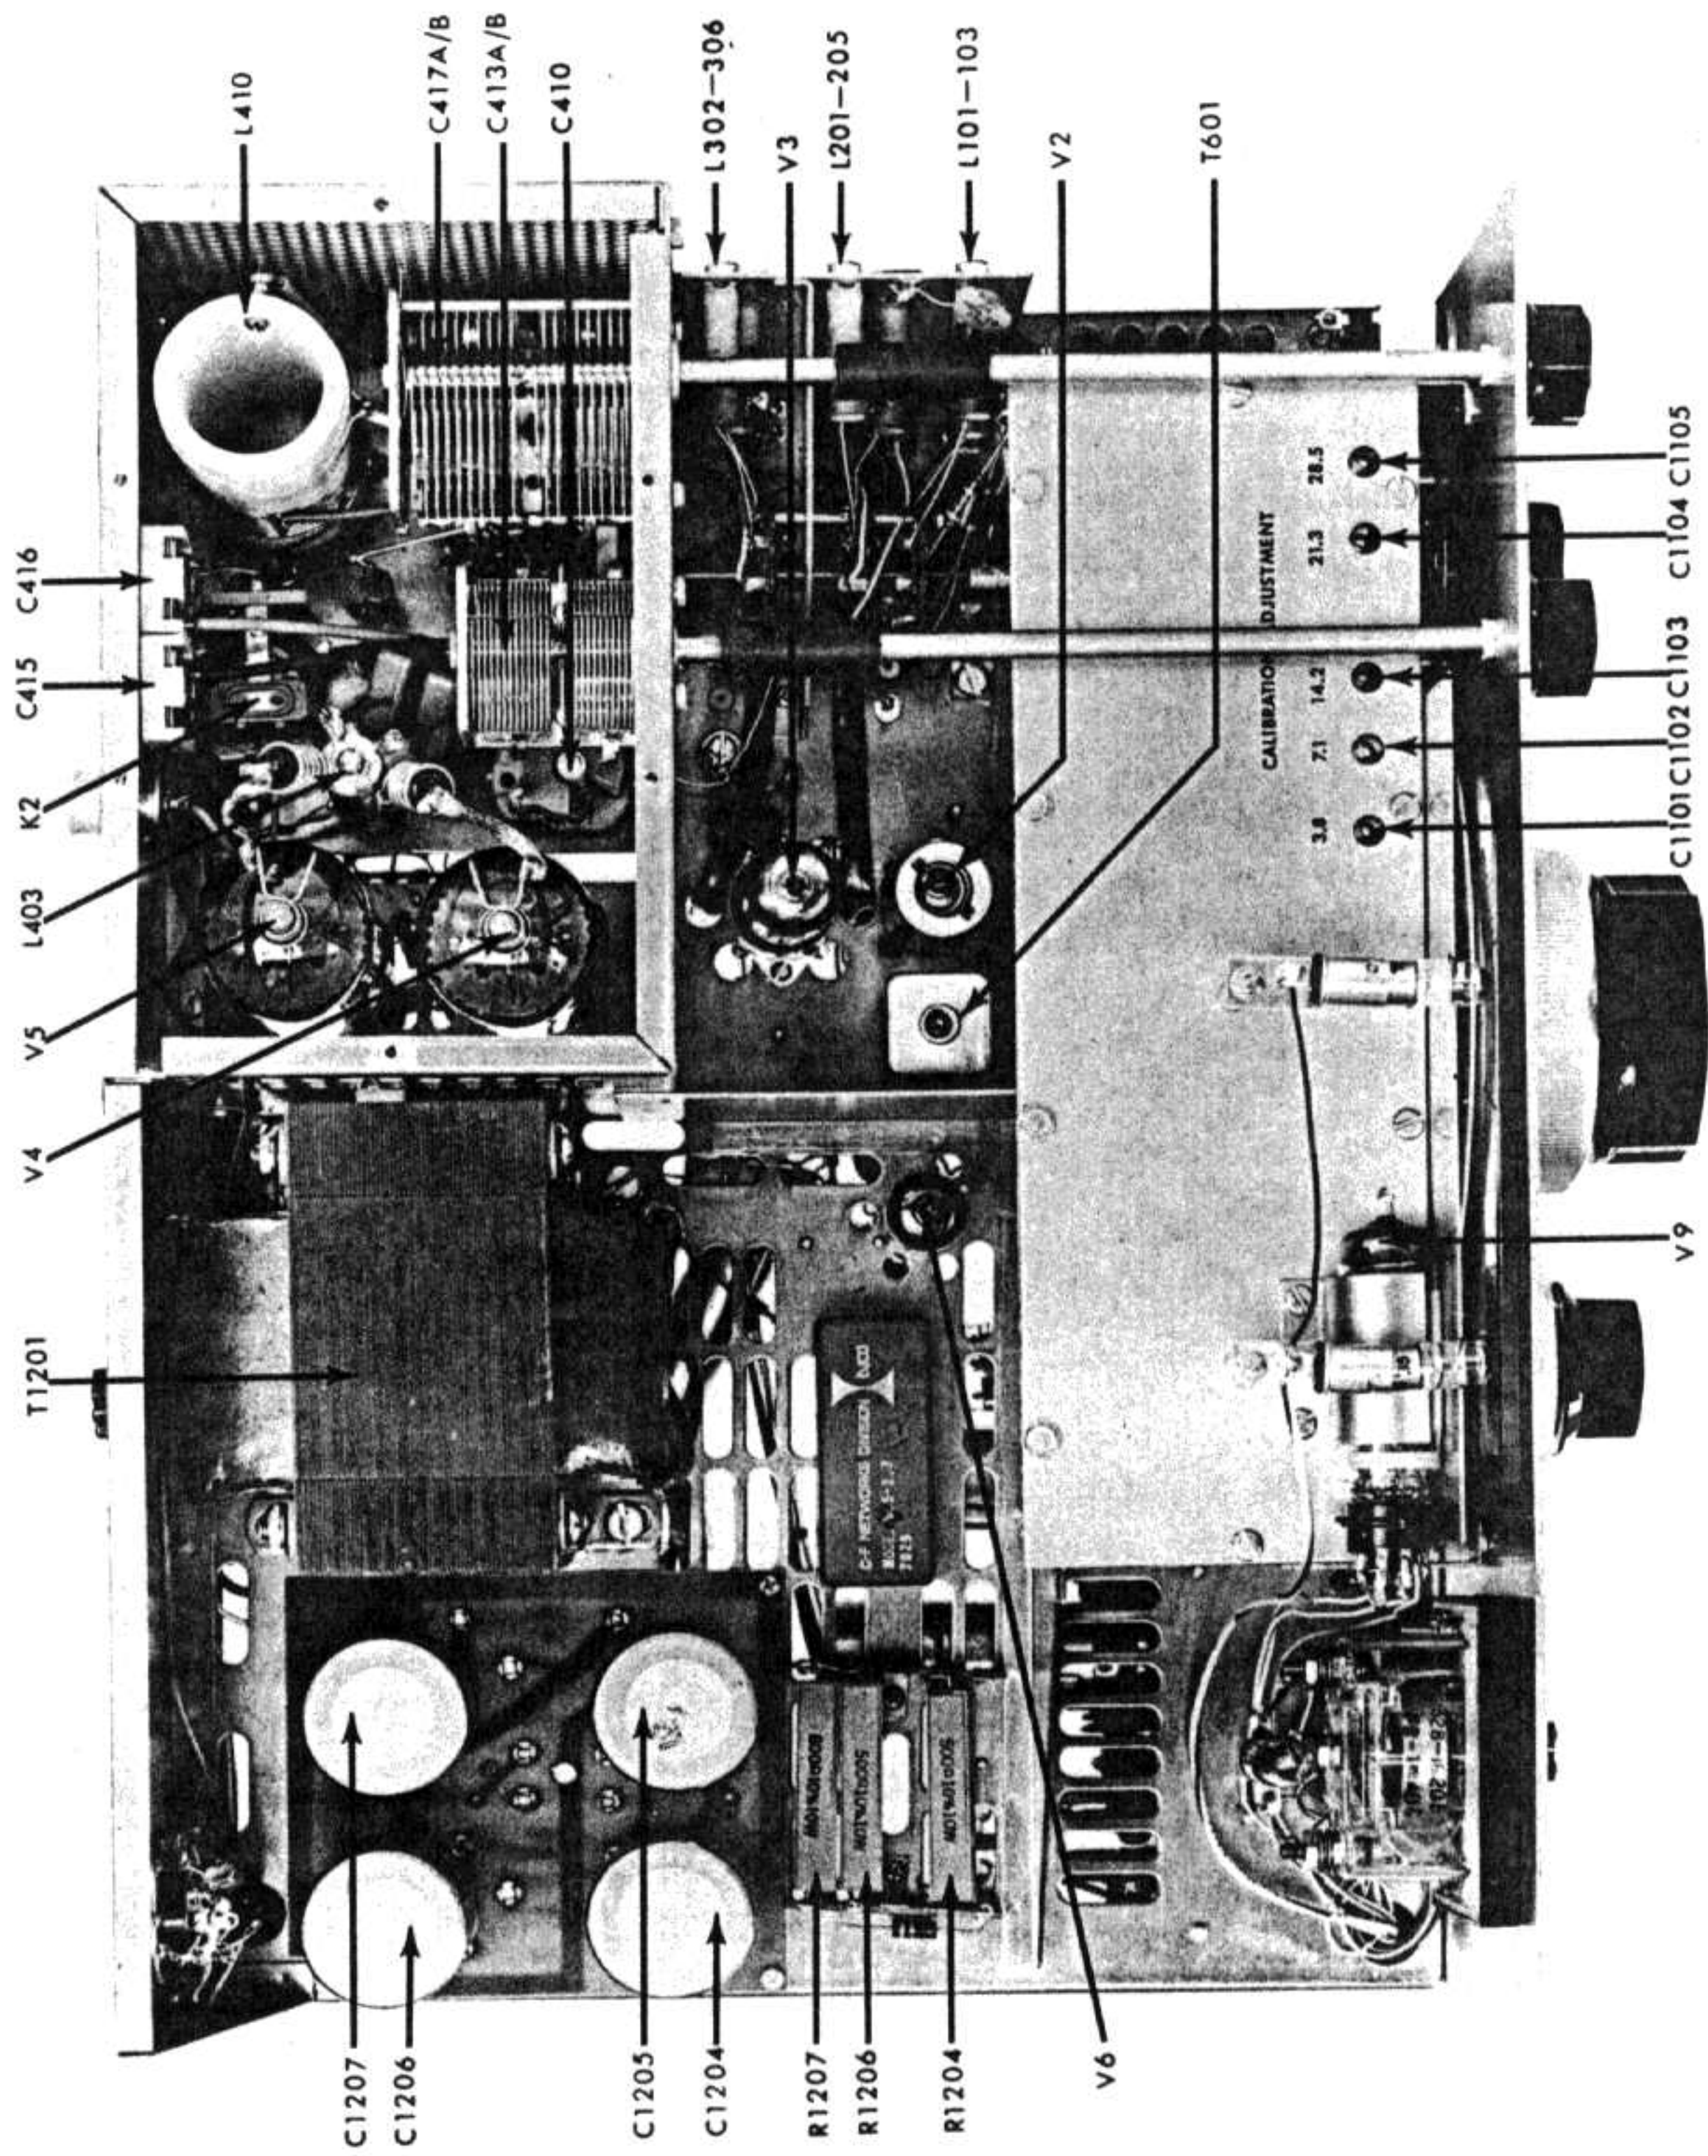
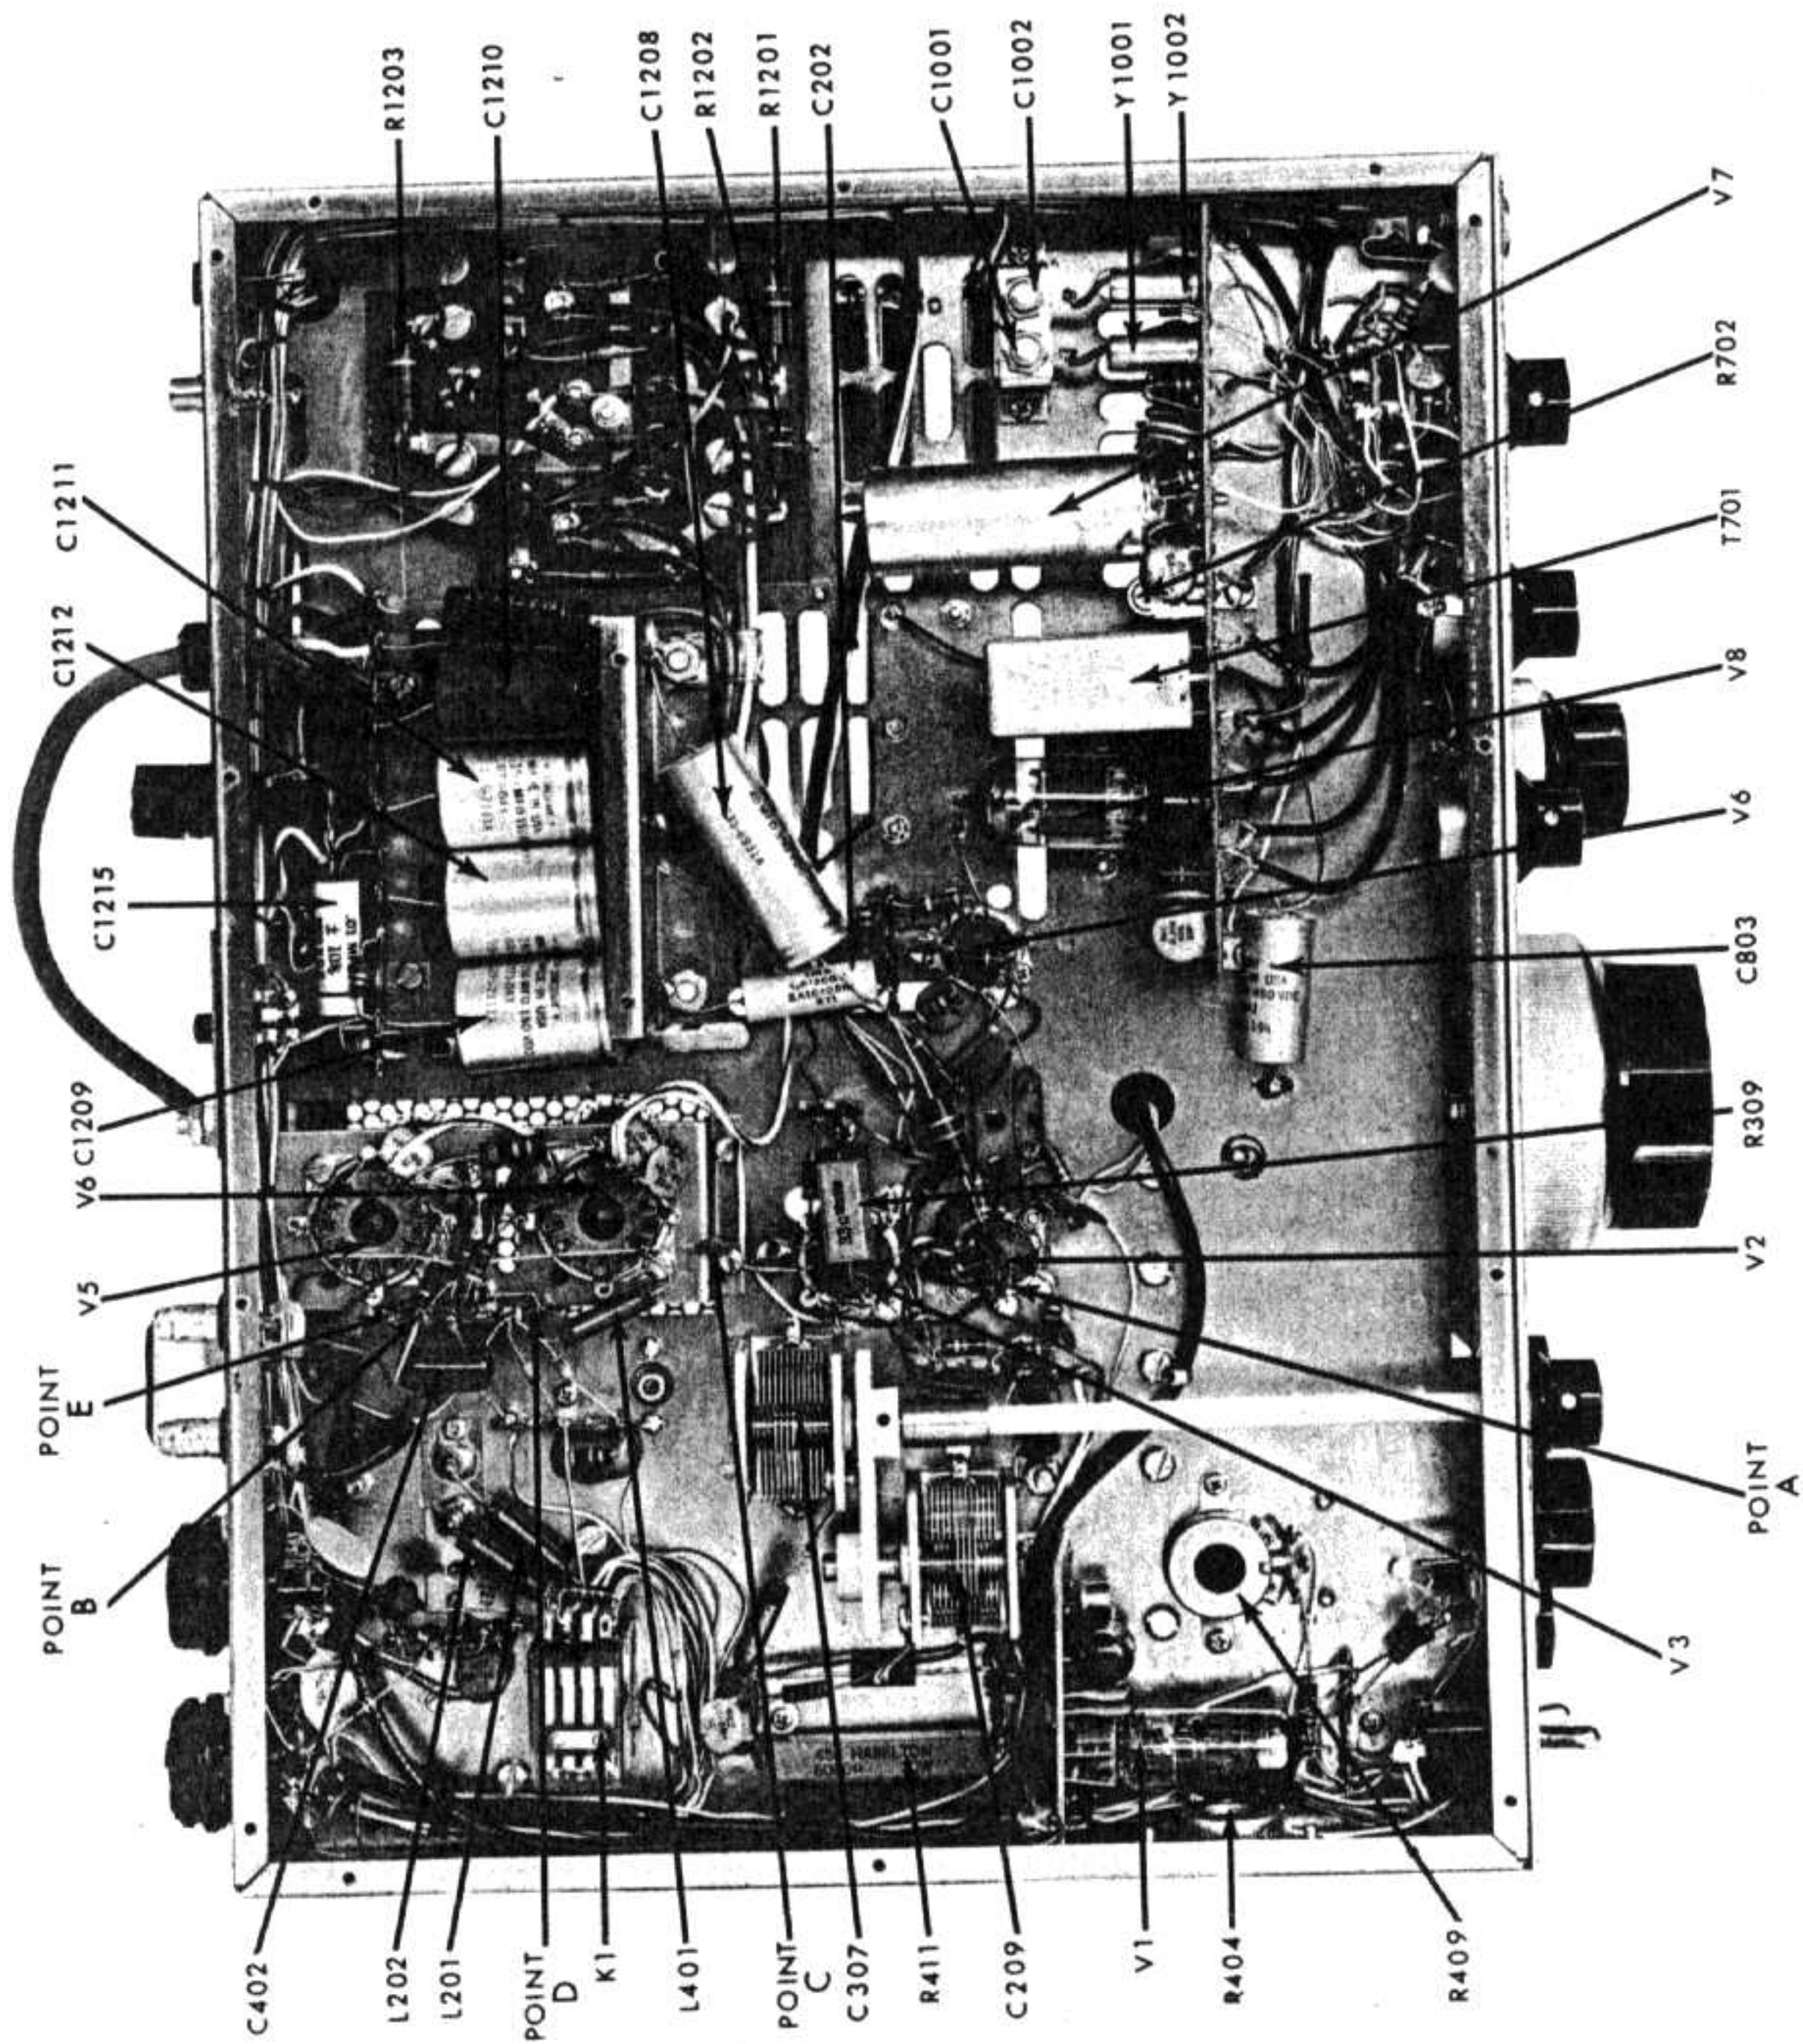

FIGURE 4. TOP VIEW OF 600-T
FIGURE 5. BOTTOM VIEW OF 600-T
- ① Set MAIN TUNING dial to 0.
- ② Rotate DIAL SET control to 0.
- ③ Connect VTVM from pin 1 of the Mixer (Point A, Figure 5), V2, to ground.
- ④ Set VTVM on 30 volt AC scale.
- ⑤ Set BAND SWITCH to 7.1, 21.3, or 10M (28.5) position.
- ⑥ Place Function Switch in TRANS position.
- ⑦ Adjust VFO injection coils for peak VTVM reading as follows.
- ③ Set BAND SWITCH to 3.8, 7.1, 14.2, 21.3, or 10M position. (See chart below.)
- ④ Remove screen voltage from V4 and V5 by disconnecting the orange wire from the terminal strip immediately adjacent to the base of V5. (Point B, Figure 5.)
- ⑤ Loosely couple field strength meter to C303 (off pin 5 of V4) with alligator clip on capacitor body. (Point C, Figure 5.)
- ⑥ Connect VTVM across R402, 1K resistor between pins 1 and 6 of terminal strip, using the 30 volt DC scale. Connect the positive lead to pin 1 (Point D, Figure 5), and the negative lead to pin 6 (Point E, Figure 5.)
- ⑦ Place Function Switch in TRANS position.
- ⑧ Adjust HIGH POWER P.A. BIAS control fully clockwise. (Maximum Bias Voltage.)
- ⑨ Adjust the BAND SWITCH and P.A. GRID control as shown in the chart below.
- ⑩ Place Function Switch in the TUNE position.
- ⑪ Adjust Mixer and Driver coils for peak VTVM reading.
peak at same time, since it is possible to tune the coils to the VFO frequency on 10 meters. Care must be taken that the coils be tuned properly. Following the above procedures, replace the orange screen voltage wire to pin 1 of terminal strip adjacent to V5. (Point B, Figure 5.)
- ① Tune transmitter up on 14,200 kc into a dummy load.
- ② Balance out the carrier.
- ③ Feed 1500 cycles of audio from the Audio Generator into the MIC. input jack.
- ④ Adjust the gain of the Audio Generator, and the MIC. GAIN control until the wattmeter reads about 10 to 15 watts.
- ⑤ Adjust both slugs of the Balanced Modulator transformer T701, for maximum output. (See Figure 5.)
- ⑥ Adjust the I.F. Amplifier, V6, transformer, T601, for maximum output. (See Figure 4.)
- ⑦ Increase the gain of the Audio Generator until the wattmeter reads 40 watts. Sweep the generator down to 300 cycles.
- ⑧ Adjust the NORMAL SIDEBAND CARRIER FREQUENCY ADJUSTMENT TRIMMER, C1002, for a reading of 10 watts. (See Figure 5.)
- ⑨ Switch SIDEBAND SELECTOR switch to OPPOSITE.
- ⑩ Adjust OPPOSITE SIDEBAND CARRIER FREQUENCY ADJUSTMENT TRIMMER, C1001, for a reading of 10 watts. (See Figure 5.)
- ⑪ Re-check with Audio Generator set at 1500 cycles and 40 watts. Sweep down to 300 cycles and re-adjust CARRIER FREQUENCY TRIMMERS, if necessary for 10 watts input.
- ① Set BAND SWITCH to 14.2 position.
- ② Set MAIN TUNING dial to 0.